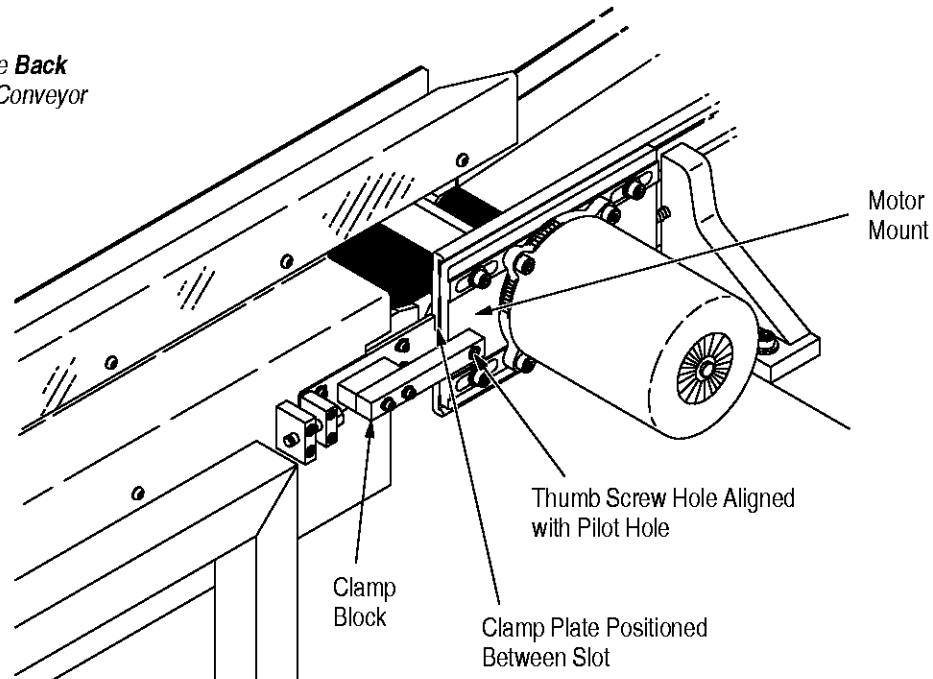

Figure 4
The thumb screw hole on the clamp block must be aligned with the pilot hole on the motor mount of the machine. See Figure 4.
4. Roll additional conveyor assembly toward primary conveyor assembly until the clamp plate is aligned with the 22.35 mm [.88 in.] slot on the motor mount of the primary conveyor assembly. The thumb screw hole must be aligned with the pilot hole. Refer to Figure 4.